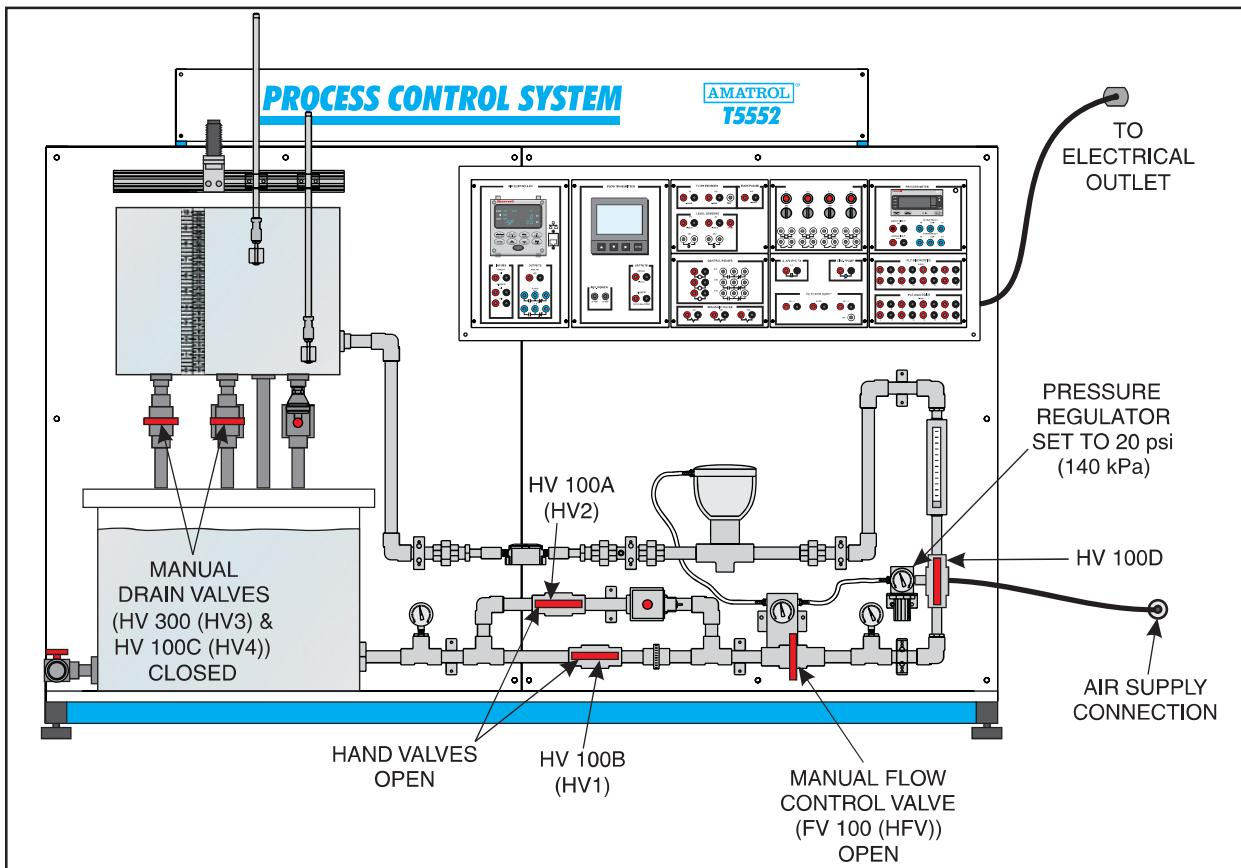

Figure 7-1. T5552 Setup
- 2. Perform the following substeps to set up the T5552, as shown in figure 7-1.